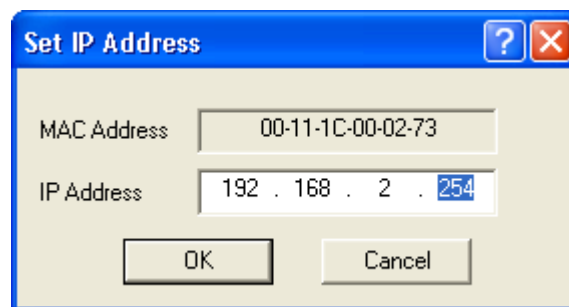

Figure 8: Set IP Address Dialog
- **Set IP Address Dialog:** This dialog, shown in Figure 8, is used to configure or change the IP address of a GigE camera. If there is a BOOTP server on the network, LYNX GigE cameras may already have been given an IP address. It is the user's responsibility to make sure each GigE camera has a unique IP address.